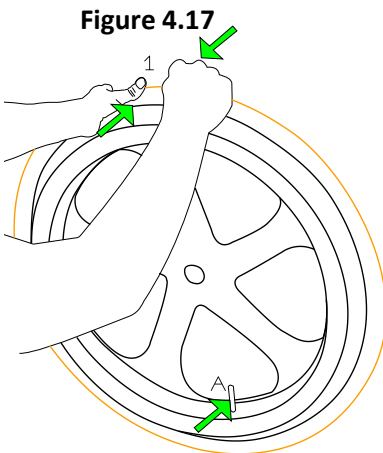

Figure 4.17
- Begin rocking the tyre side-to-side to break the old adhesive (Fig 4.17, 1)